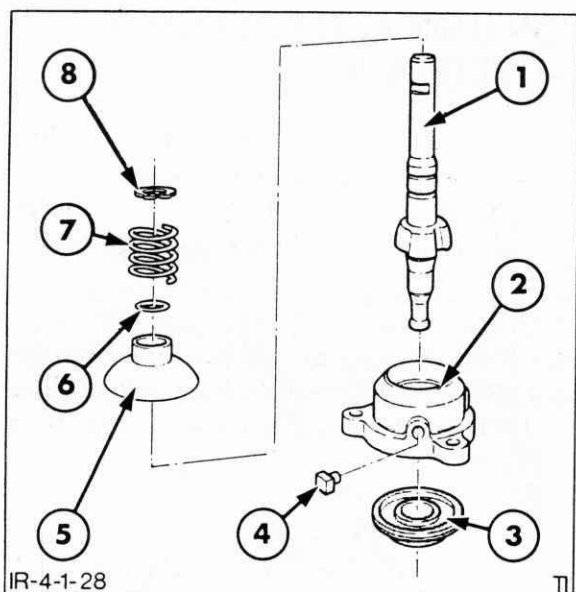

Figure 4-27
3. Remove the pin and rubber shield from the lever support, Figure 4-27.